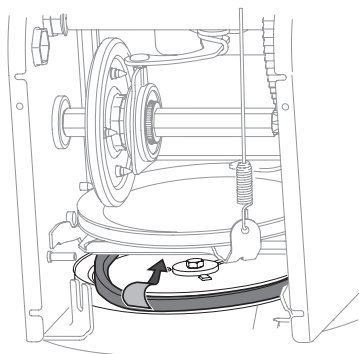

Figure 4-15
- Remove belt from around auger pulley, and slip it between support bracket and auger pulley. See Figure 4-15.